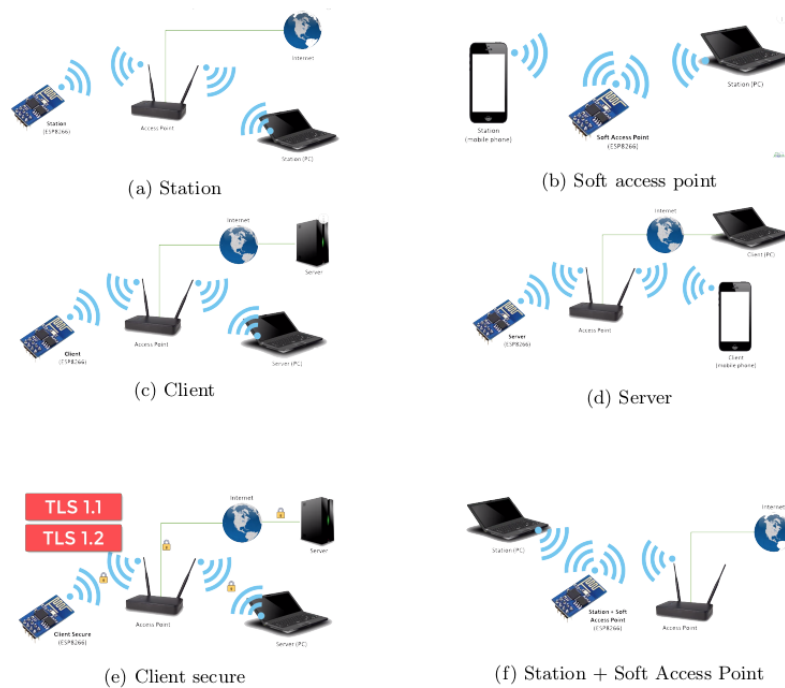

Figure 2: ESP8266 operating in different modes
First and foremost, the ESP8266 Module works on 3.3V Power Supply and anything greater than that, like 5V for example, will kill the SoC. So, the VCC Pin and CH EN Pin of ESP8266 Module are connected to a 3.3V Supply. Next important thing to remember is that the ESP8266 WiFi Module has two modes of operation: Programming Mode and Normal Mode. In Programming Mode, you can upload the program or firmware to the ESP8266 Module and in Normal Mode, the uploaded program or firmware will run normally. In order to enable the Programming Mode, the GPIO0 pin must be connected to GND. Finally, ESP8266 works in two modes: Station (STA) and Access Point (AP). In short, AP mode allows it to create its own network and have other devices (your phone) connect to it and STA mode allows the ESP8266 to connect to a Wi-Fi network (one created by your wireless router). So, an important feature about the ESP8266 is that it can function as a client or as an access point or even both. In figure 2, we can see a summary of all the variations of the operation modes of the module.